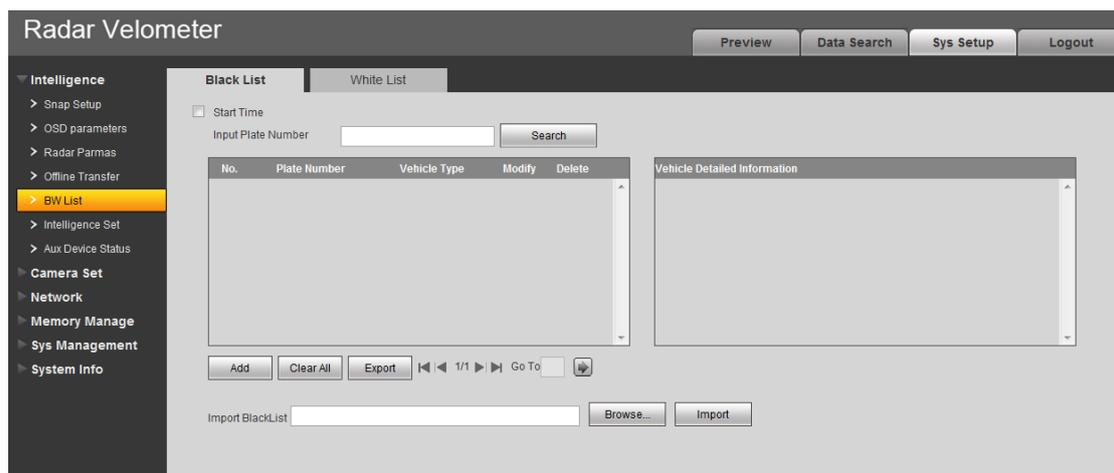

Figure 4- 17
Step 1. Select ITC>BW List. See Figure 4- 17.